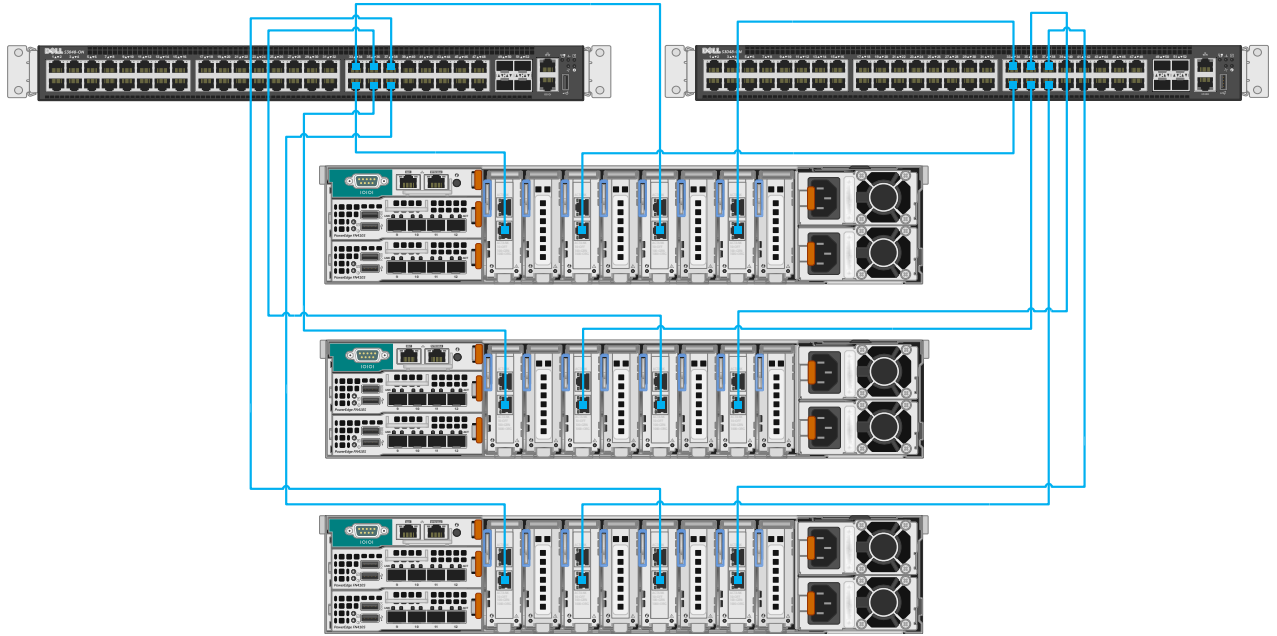
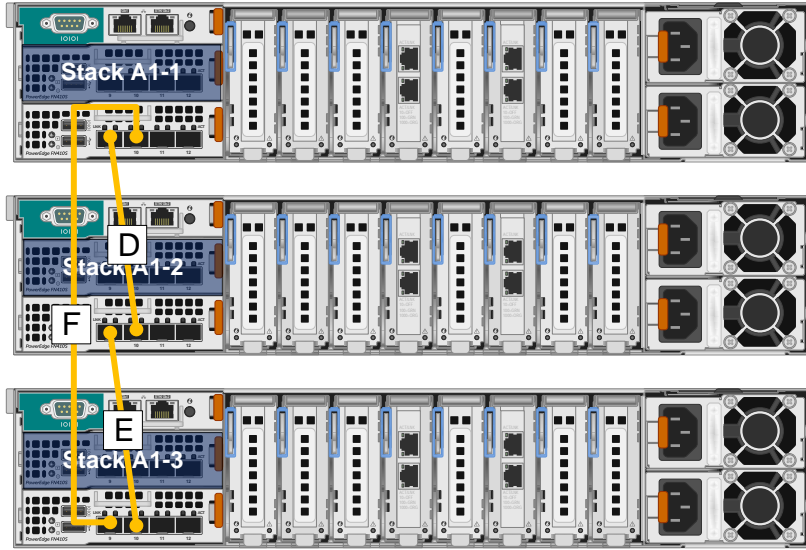

Figure 11 Physical cabling for vMotion connections
Figure 13 Physical cabling for Stack A2
The two S3048-ON switches are used to handle management connections described in section 4.1 are also utilized for infrequent vMotion traffic. Figure 11 shows these connections in blue.
The bottom FN IOM switches from each FX2s chassis comprise Stack A2. Their wiring uses a stack ring topology. See Figure 13. Table 3 contains the information required to wire the stack in this configuration with labels A through C to identify the cable in Figure 11.
**Note:** Figure 13 omits Stack A1 for clarity. Section 5.3.1 describes the configuration of Stack A1.